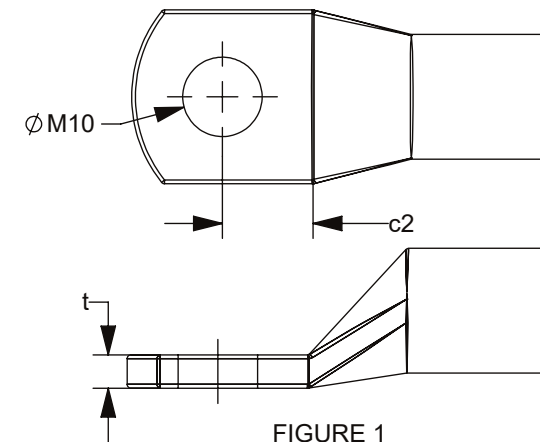

FIGURE 1
3. ASSEMBLE THE ISOLATED BOLT, M10 RING TERMINAL, & M10 ZCASE TO THE BASE ASSEMBLY. SECURE THE BOLT TO $16 \pm 2 \text{ N}\cdot\text{m}$. BE SURE THE RING TERMINAL DIMENSIONS MATCH THE FOLLOWING REQUIREMENTS (FIGURE 1): $c2 \geq 11 \text{ mm}$. IF MORE THAN ONE RING TERMINAL SIZE IS USED, THE THICKNESS (t) OF EACH MUST BE WITHIN 2mm OF EACH OTHER.